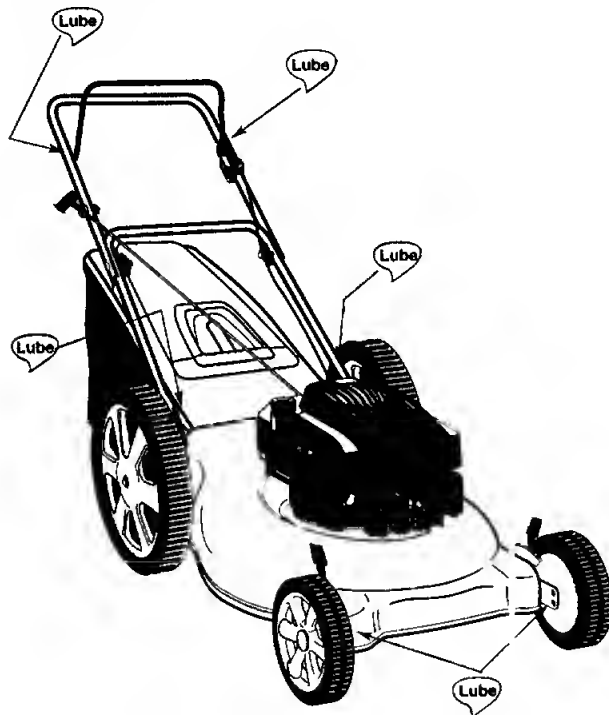

Figure 18
(Refer to figure 18.)
Lubricate the pivot points on the blade control handle and the brake cable at least once a season with light oil. See figure 18. The blade control must operate freely in both directions.
- Test the blade by balancing it on a round shaft screwdriver or a blade balancer. See figure 18. We recommend using the Arnold blade balancer (part # SBB-102) available at your local dealer.